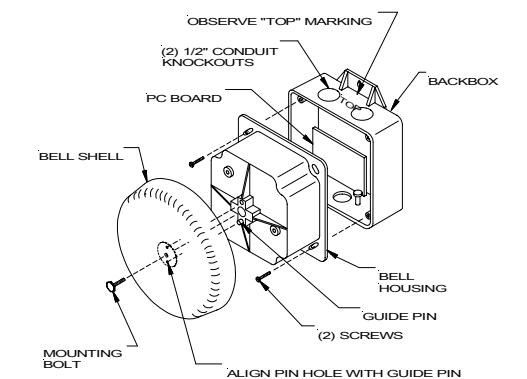

Figure 3: Removal of Bell Shell and Housing
2. Hard Wire Connection - Figures 3 & 4: